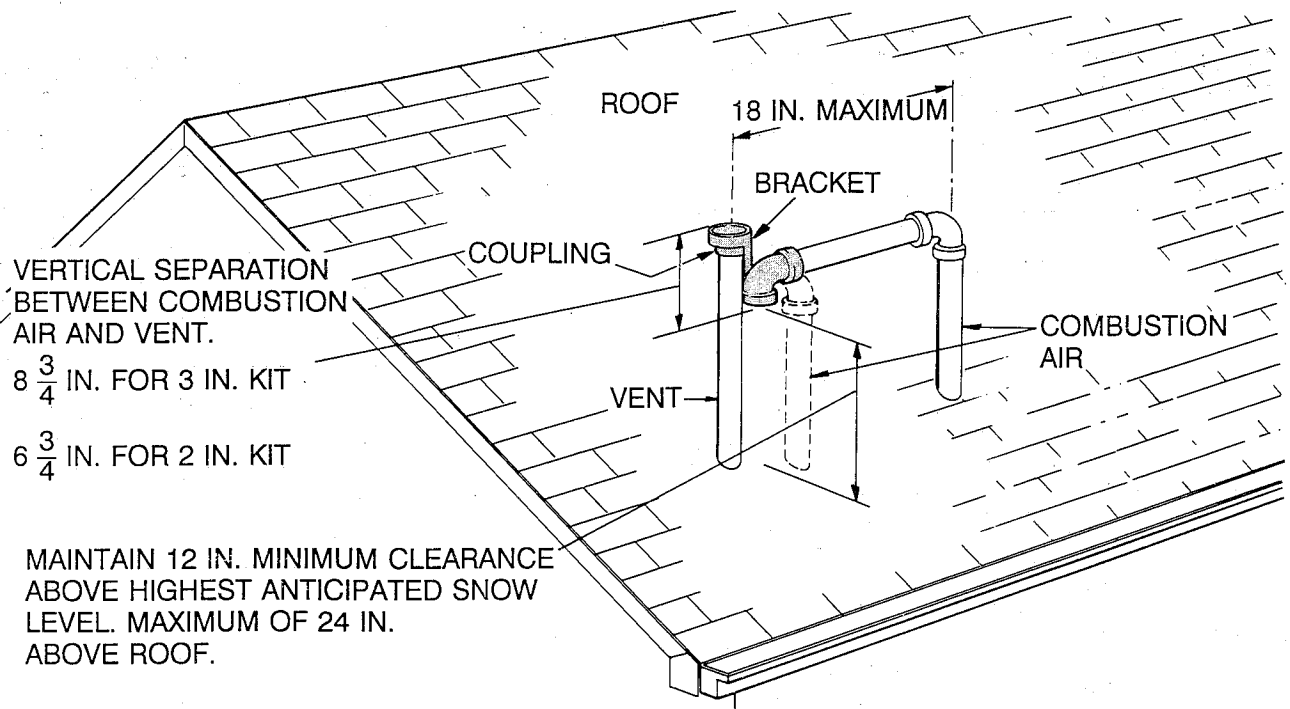

Fig. 15—Roof Termination (Preferred)
COMBUSTION-AIR AND VENT PIPING — The combustion-air and vent pipe fittings must conform to American National Standards Institute (ANSI) standards and American Society for Testing and Materials (ASTM) standards D1785 (schedule-40 PVC), D2665 (PVC-DWV), D2241 (SDR-21 and SDR-26 PVC), D2661 (ABS-DWV) or F628 (schedule-40 ABS). Pipe cement and primer must conform to ASTM standards D2564 (PVC) or D2235 (ABS). See Table 7 for maximum pipe lengths and Fig. 15, 16, and 17 for exterior piping arrangements.
All combustion-air and vent pipes must be airtight and watertight. The pipes must also terminate exactly as shown in Fig. 15 through 20. Failure to follow this warning could result in property damage, personal injury, or death.
NOTE: Do not count the elbows to which the terminal bracket attaches or any elbow between the bracket and the open end of the pipe. See shaded areas in Fig. 15 through 17. Likewise, do not count pipe sections inside furnace casing.
The combustion-air and vent pipes must terminate outside the structure. A factory-supplied terminal kit must be installed as in 1 of the installations shown in Fig. 15 through 17. Roof termination is preferred. (See Fig. 15.) Two terminal kits are available. The 2-in. kit is for 2-in. diameter pipe systems. The 3-in. kit is for 2-1/2 in., 3-in., and 4-in. diameter pipe systems. (See Fig. 15 through 17 for the different applications.)
The shaded parts in Fig. 15 through 17 are provided in the terminal kit; therefore, do not count them when determining the pipe diameter.
1. Roof termination (preferred). (See Fig. 15.)
- b. Loosely install pipe coupling on properly cut vent pipe. The coupling must be positioned so the bracket will mount as shown in Fig. 15.